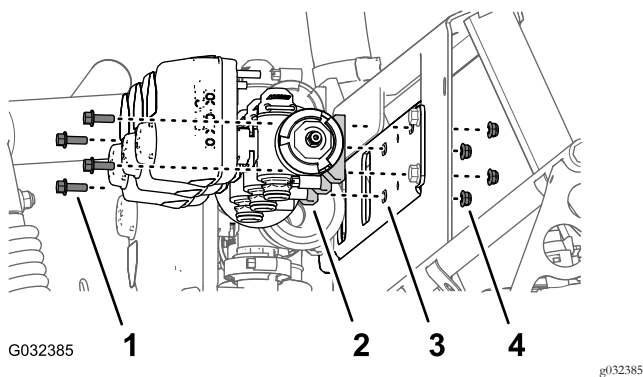

Figure 60
- Remove the 2 flange-head bolts (1/4 x 3/4 inch) and 2 locknuts (1/4 inch) that secure the right boom-section valve to the manifold mount (Figure 60).
- Remove the 2 flange-head bolts (1/4 x 3/4 inch) and 2 locknuts (1/4 inch) that secure the left boom-section valve to the manifold mount (Figure 60).
- Remove the boom-section valves from the manifold mount and set aside the valves (Figure 60).